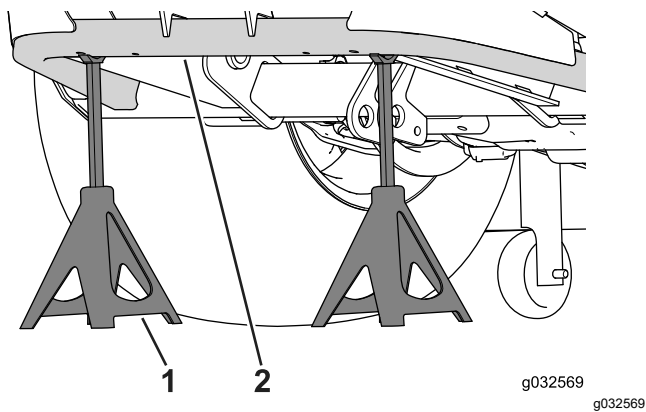

Figure 54
2. Use 2 jack stand underneath the frame to support the back of the machine (Figure 54).